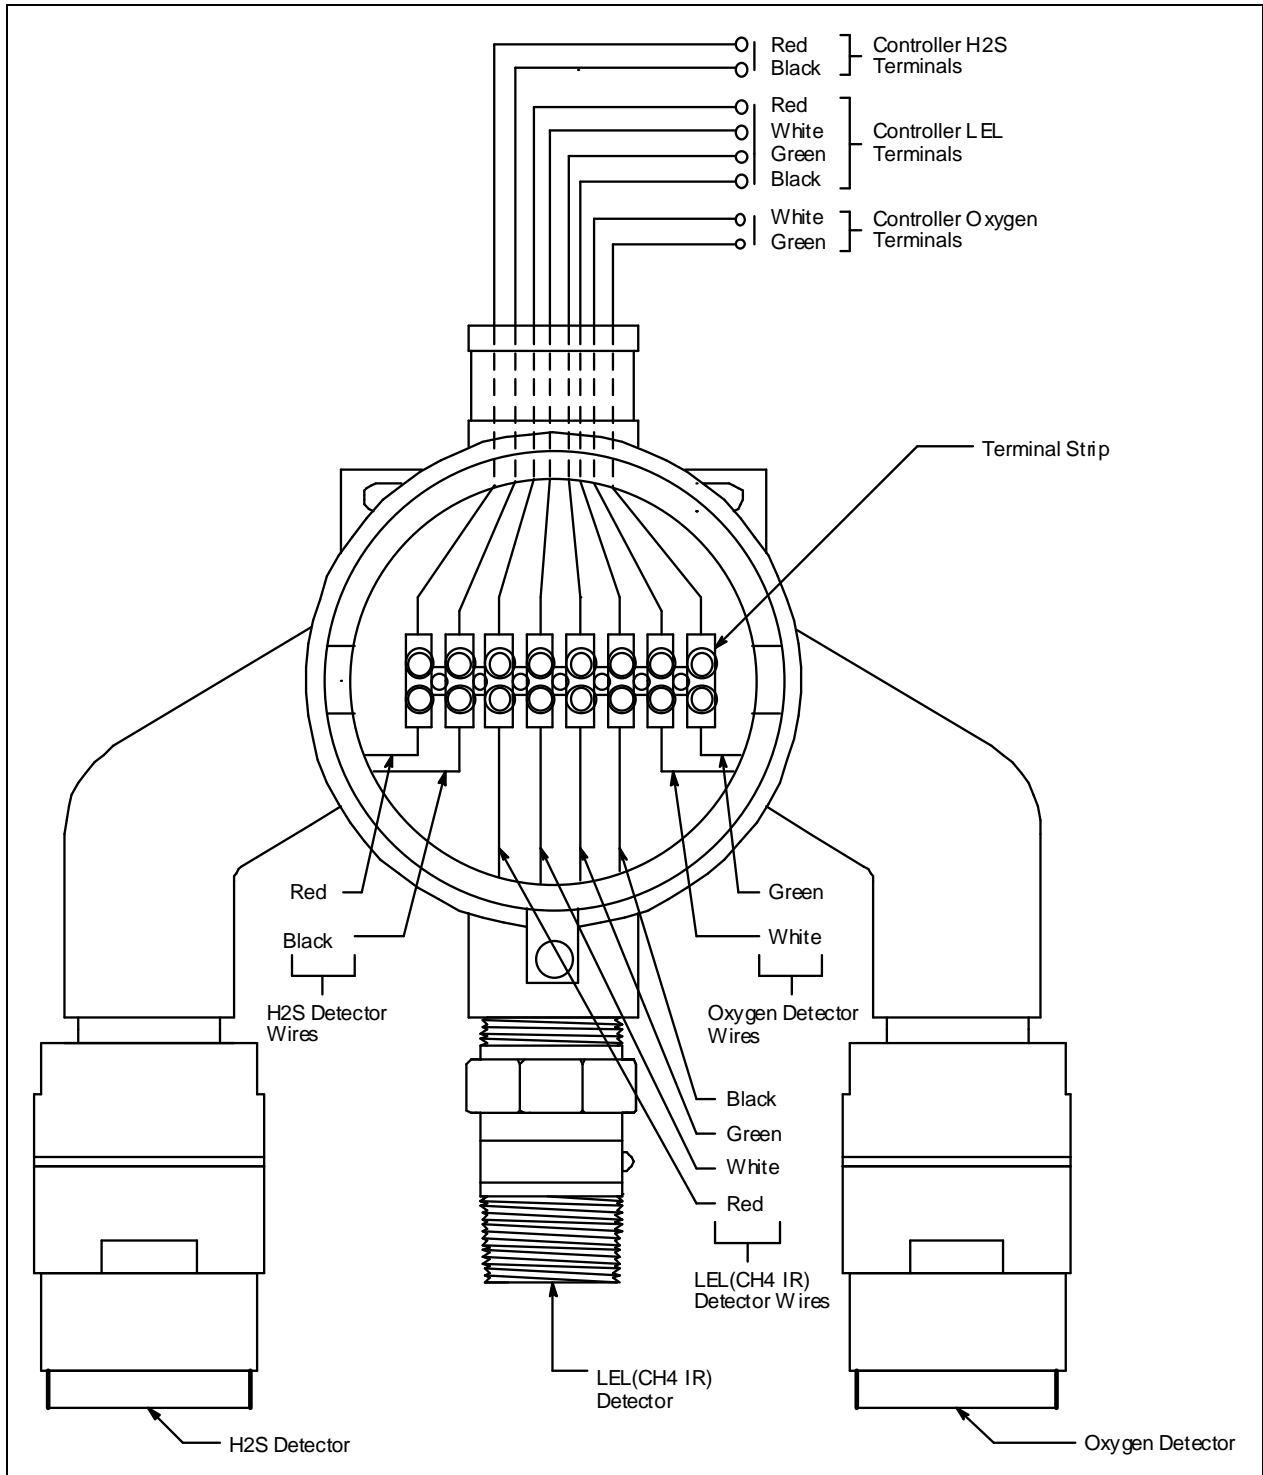
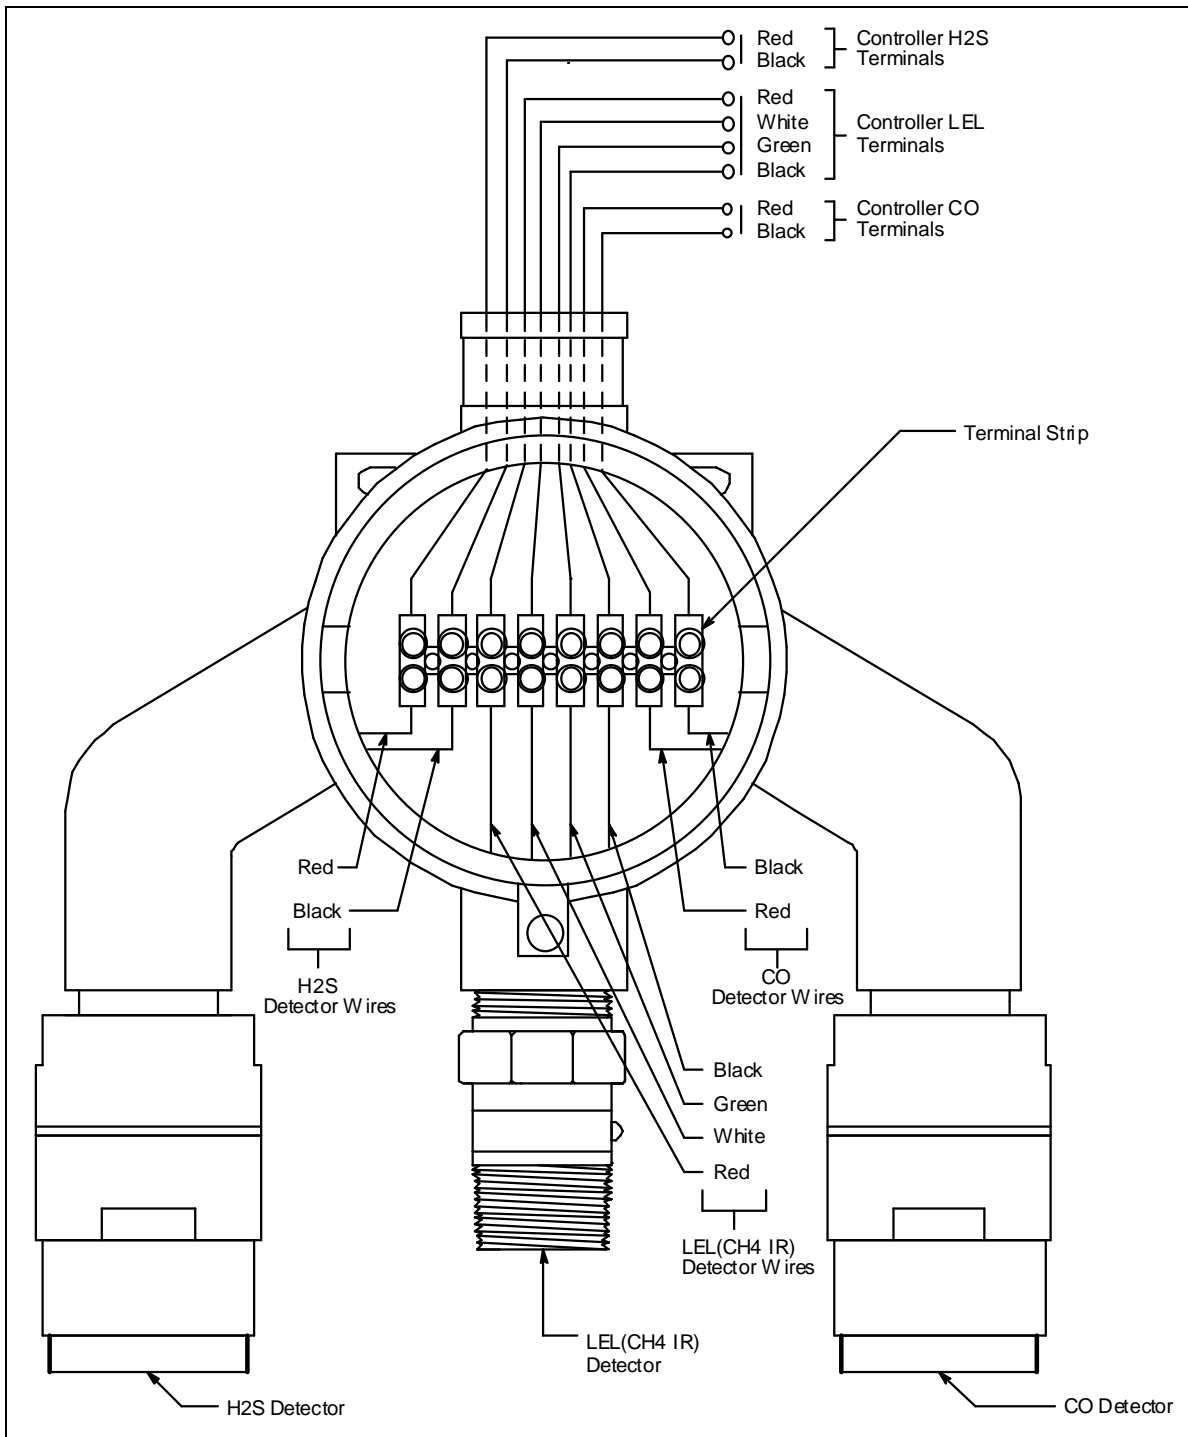

Figure 11: Wiring the 65-2482RK-01 to a Controller
Figure 16: Wiring the 65-2482RK-06 to a Controller
8. Connect the wires to the applicable controller terminal strips. See the controller operator's manual and the controller's detector head specification sheet. Also see Figure 11-Figure 16 for wiring diagrams for each detector model.
- Connect the detector leads to the terminal block the same way the old detector was wired. See the controller operator's manual and the controller's detector head specification sheet for the IR LEL detector to verify the connections are correct. Also see Figure 11-Figure 16 for wiring diagrams.
7. Connect the detector leads to the terminal block the same way the old detector was wired. See the controller operator's manual and the controller's detector head specification sheet for the oxygen detector to verify the connections are correct. Also see Figure 11-Figure 16 for wiring diagrams.